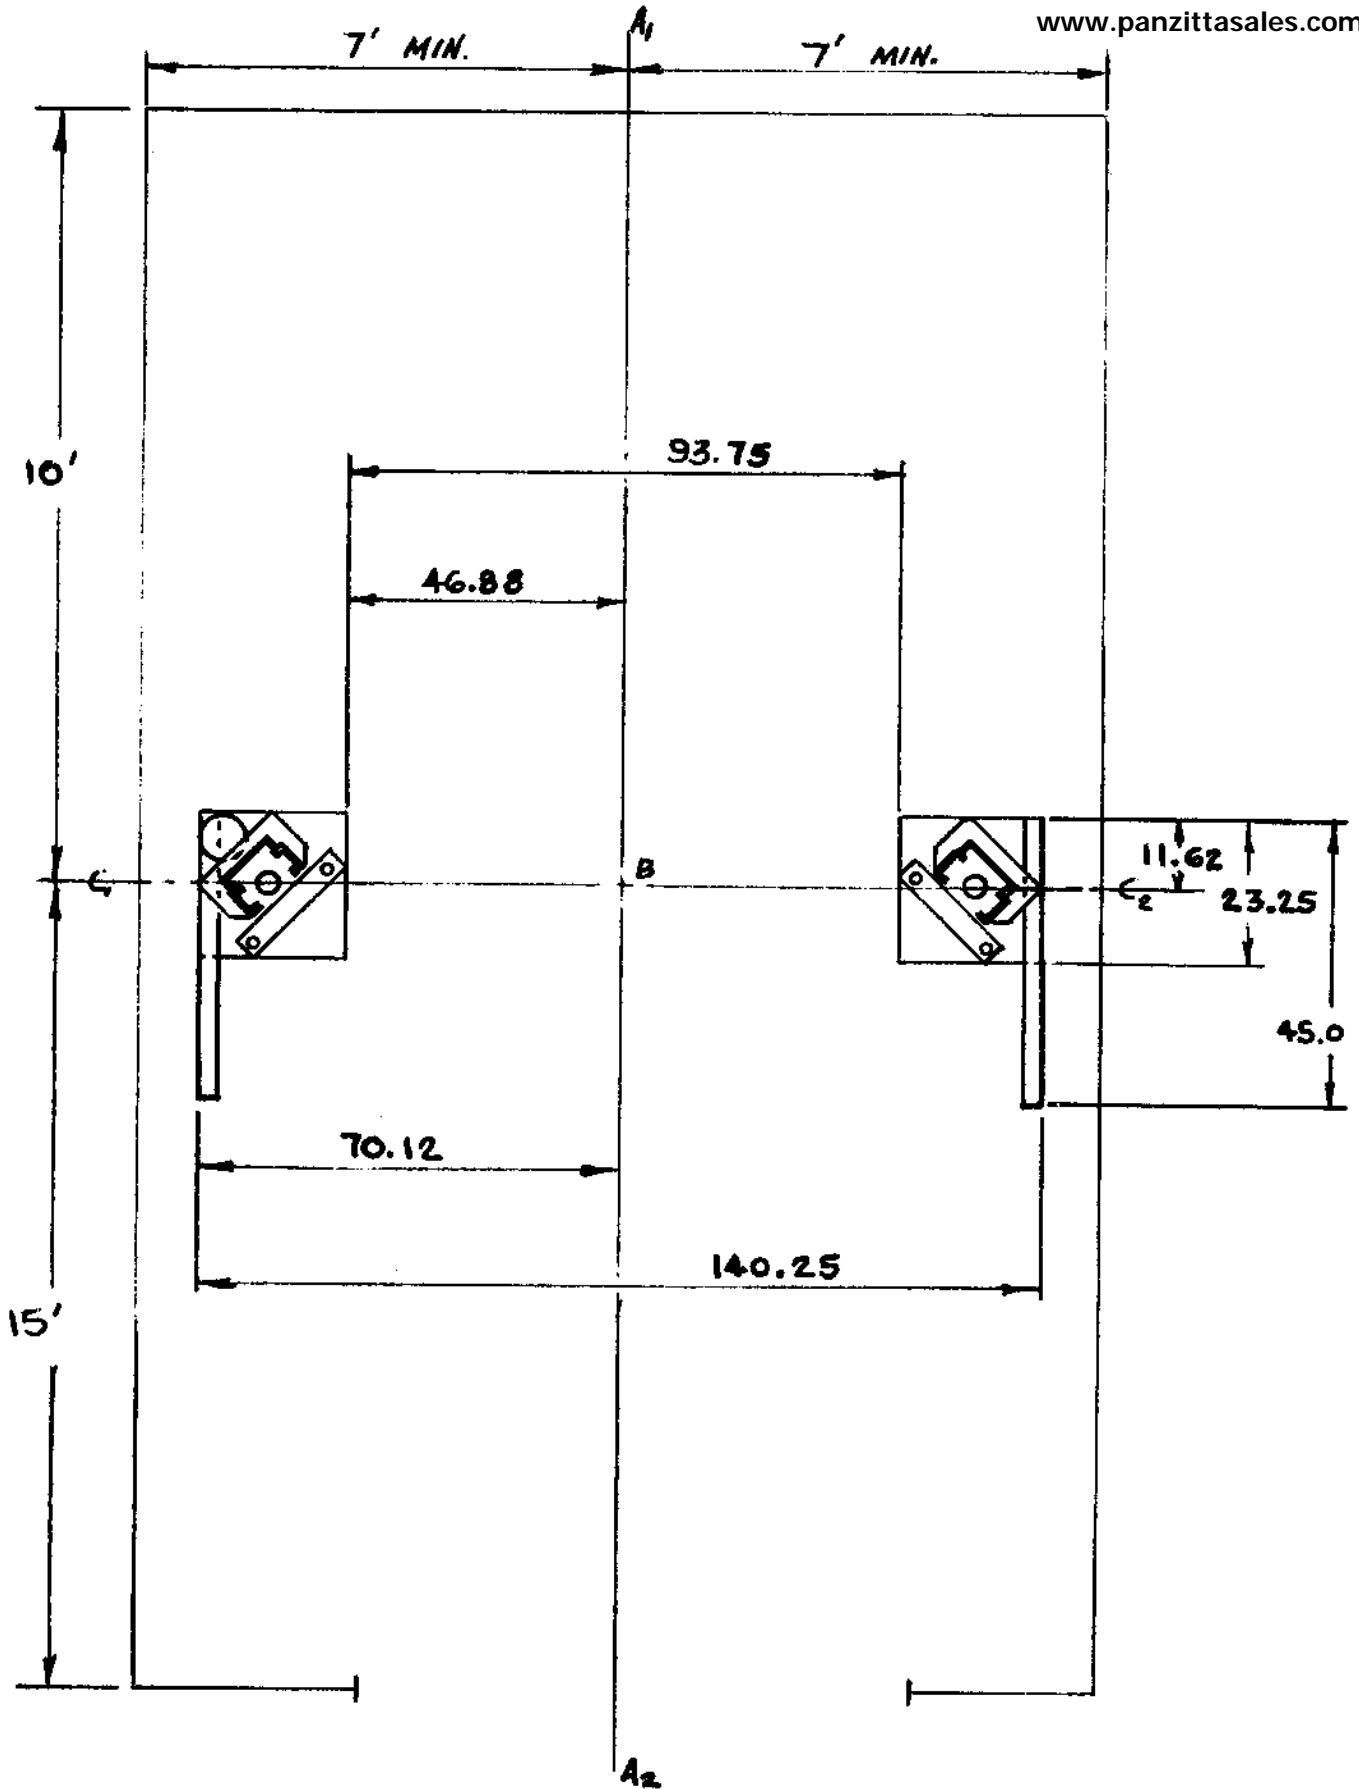

Fig. 44
2. Locate the centerline (A1, A2) of the site (See Fig. 44) This centerline may be determined by the location of doorways, building supports, work benches, or other obstacles.
3. Measure along the site centerline to locate the place where the lift centerline will cross point (B). Mark this centerline (C1, C2) perpendicular to the site centerline.
8. Carefully measure distance to offside post (See Fig. 44).
11. Assemble the two overhead upright structures to the horizontal upright channel with sixteen (16) 3/8-16 X 3/4" hex flange head self-locking screws and hex flange lock nuts. NOTE: The horizontal channel fits inside the upright structures.